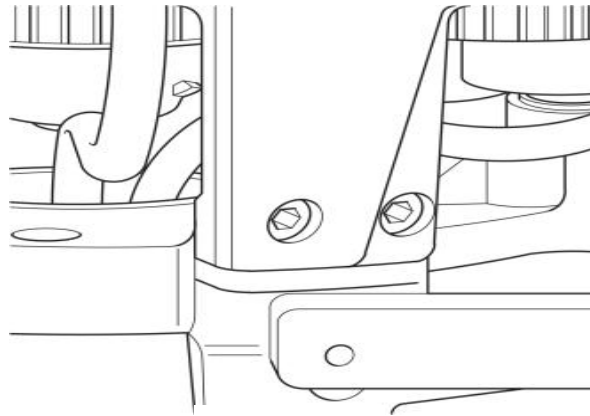

Figure 12
- (3) The tap selector is fitted with a suitable lifting device.
(4) Raise the tap selector below the diverter switch oil compartment.
(5) Align the position of the two coupling members, and the bearing on the tap selector should be aligned with the hole in the base of the oil chamber.
(6) Raise the tap selector to the appropriate height.
(7) Connect the tap selector to the oil chamber base with the six M12 bolts and nuts removed from the front. The tightening torque is 60 Nm (Fig. 12).